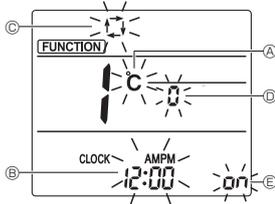

Fig. 3-2
- Press the **DOWN** button ④ to change the function No.
- Check that function No. "1" is displayed, and then press the **SET** button ③.
- The display setting screen will be displayed. (Fig. 3-2)
#### 2) Changing the temperature unit Ⓐ (Fig. 3-2)
#### 3) Changing the time display Ⓑ (Fig. 3-2)
#### 4) Changing the AUTO mode Ⓒ (Fig. 3-2)
#### 5) Changing the pair No. Ⓓ (Fig. 3-2)
#### 6) Changing the backlight setting Ⓔ (Fig. 3-2)